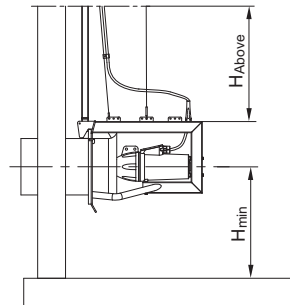

Fig. 1 Distance to liquid surface and tank bottom
- The distance from the centre of the pump to the tank bottom (H_{\min}) must be equal to the impeller diameter. See fig. 1.
- For pumps without vortex shield, the distance must at least be equal to 1.5 times the impeller diameter. See fig. 1.